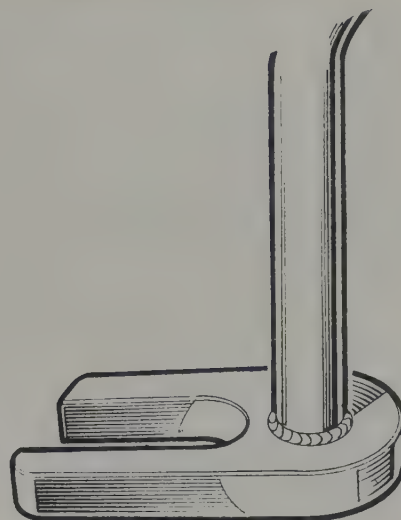
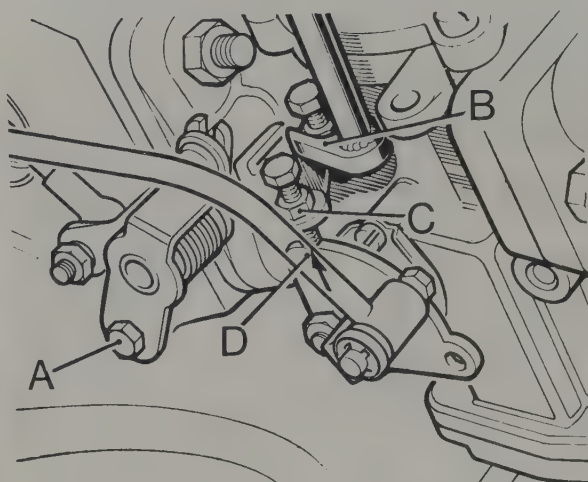

Fig. 3.18. Special tool for carburettor idle adjustment
Fig. 3.19. Engine idle adjustment points
- 4 Release the screws "A" holding the throttle lever to the carburettor lever on both carburettors (Fig.3.19). This will allow independent adjustment of the carburettors.
- 5 With the engine running, use the special tool (Fig.3.18) to slacken off the idle adjusting screw locknuts "B" (Fig.3.19).
- 1 Pull out the mixture control to the point where the mark on the fast idle cam "D" is opposite the centre line of the fast idle adjusting screw "C" (Fig.3.19).